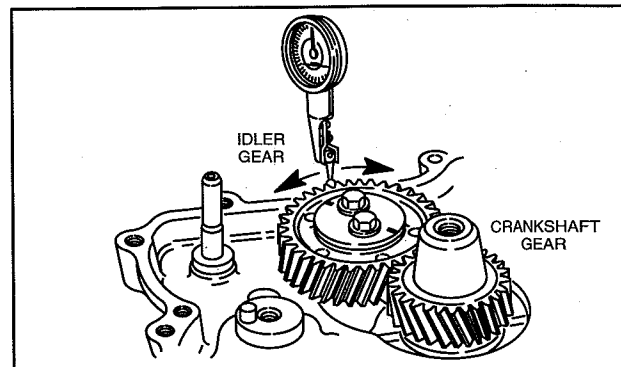

Fig. 6 - Checking Idler Gear Backlash
1. Check gear backlash between idler gear and crankshaft gear using dial indicator as shown in Fig. 6.